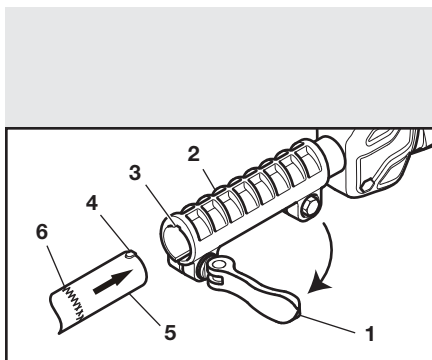

Fig. 1
1. Pull the locking lever (1) outward from the locking collar (2). Align the groove (3) in the locking collar with the matching key (4) on the end of the attachment shaft (5) (Fig. 1).
2. Insert the attachment shaft into the locking collar until the installation mark (6) meets the locking collar.